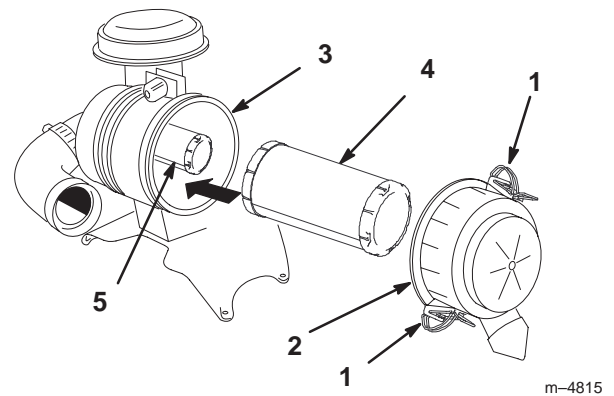

Figure 36
3. Release the latches on the air cleaner and pull the air cleaner cover off of the air cleaner body (Fig. 36).
5. Gently slide the primary filter out of the air cleaner body (Fig. 36). Avoid knocking the filter into the side of the body. Do not remove the safety filter, unless you intend to replace it as well.
2. If the safety filter is being replaced, carefully slide it into the filter body (Fig. 36).
3. Carefully slide the primary filter over the safety filter (Fig. 36). Ensure that it is fully seated by pushing on the outer rim of the filter while installing it.
4. Install the air cleaner cover with the side indicated as **UP** facing up and secure the latches (Fig. 36).